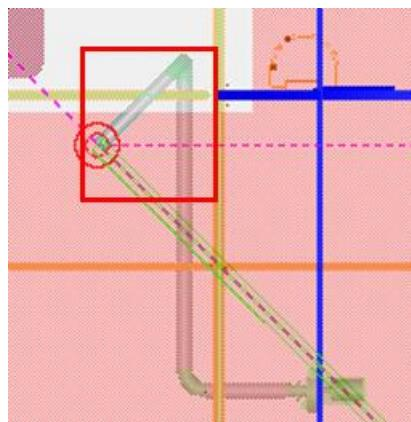

Figure 3.21: Placed Pipe
29. Click in the graphic view to place the pipe. The view of your model should resemble Figure 3.21.
32. Move the cursor to **Beam** as shown above in Figure 3.21 to add it to SmartSketch.
33. Now move the cursor upwards to locate the projection line displayed by the system at **2 ft** offset from **Beam** as shown above in Figure 3.21. Click in the graphic view to place the pipe.